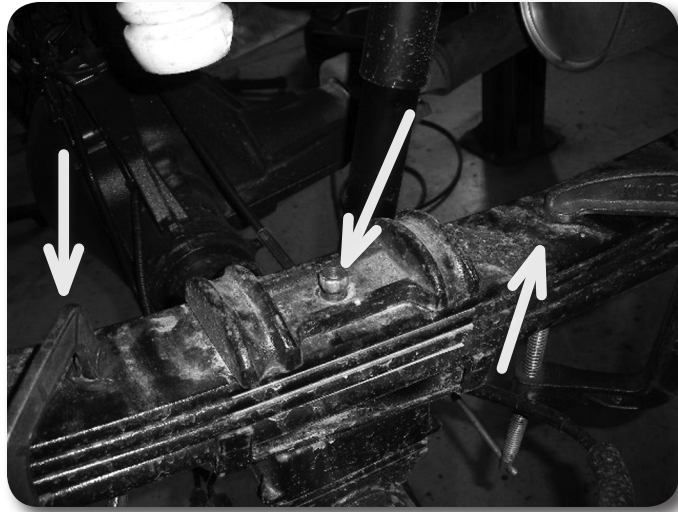

Figure 21
6. Disconnect the passenger's side spring u-bolts. Using two C-Clamps, clamp the leaf spring on each side of the top u-bolt plate. **Figure 21** Remove the center pin nut and remove the u-bolt plate. Reinstall the center pin nut and torque to 40 ft-lbs. The u-bolts, top plate and bottom plate will not be reused.